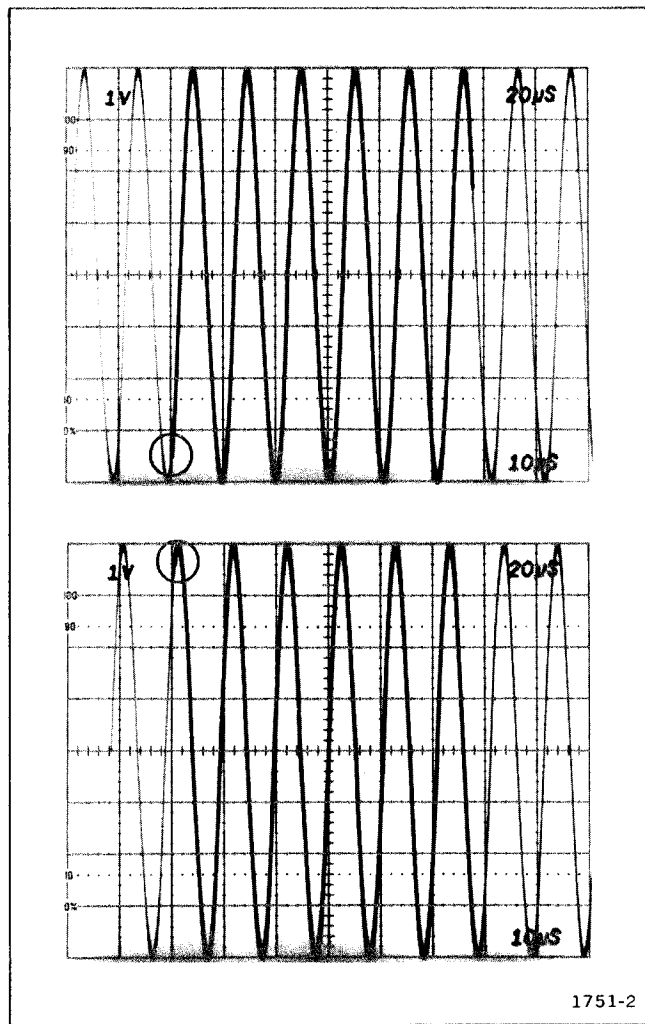

Fig. 5-12. Delayed Triggering level range. (Circle denotes triggering limits.)
d. Check—that all levels of the positive slope of the intensified zone may be selected for the sweep starting point as the Delayed Triggering LEVEL control is rotated throughout its range, and that triggering occurs at least 3.5 divisions above and below the center horizontal graticule line. See Fig. 5-12 for reference.